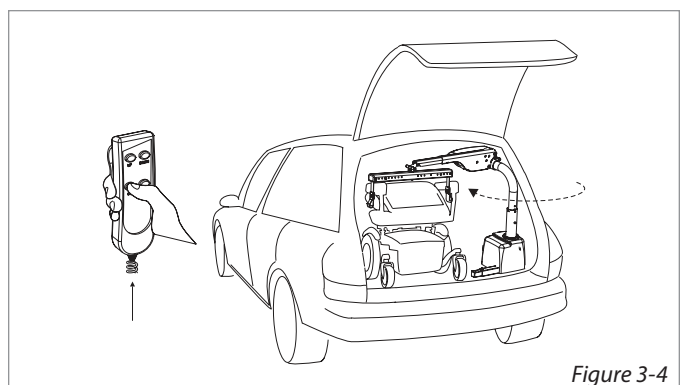

Figure 3-4
6. **When the chair is raised enough to clear the bumper/threshold,** rotate the chair or scooter into the vehicle by pressing the "IN" button. [Figure 3-4]